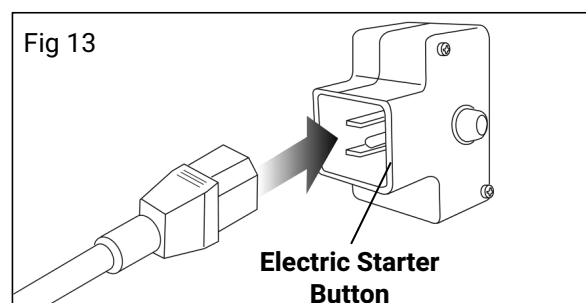

Fig 13
1. Connect extension cord to the starter outlet on the engine and into a 120V AC outlet (see Figure 13).